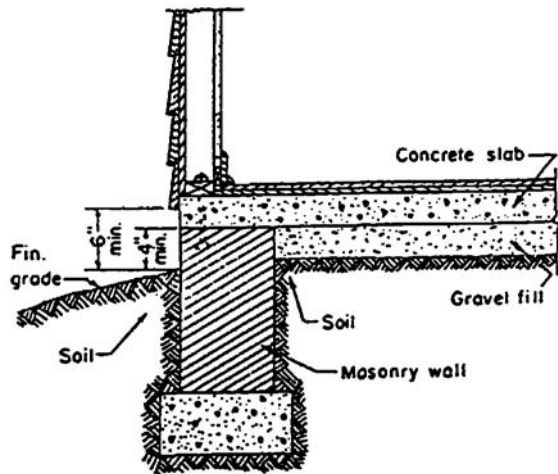

Figure 17. Supported concrete slab-on-ground construction.
2. **Supported Slab.** With a supported slab (Figure 17) the floor slab extends completely or partly across the top of the foundation. The slab and the foundation are constructed as independent units. A fully extended slab prevents hidden termite attack, even though a vertical crack may develop in the wall. Termites still must tunnel over an exposed part of the concrete slab. The top of the slab should be at least 8 inches above grade and its lower edge open to view.